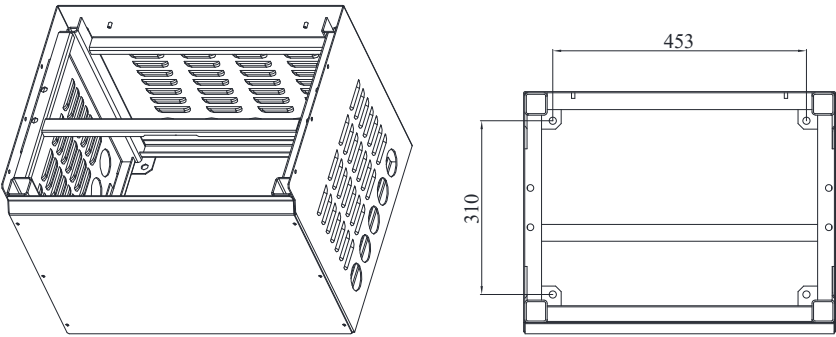

Fig. 3 Dimensional diagram for I type with an optional base
- Note 3: I type structure can have an optional base, with its height H of 1490 including base; the fixed holes are shown in Fig. 3;